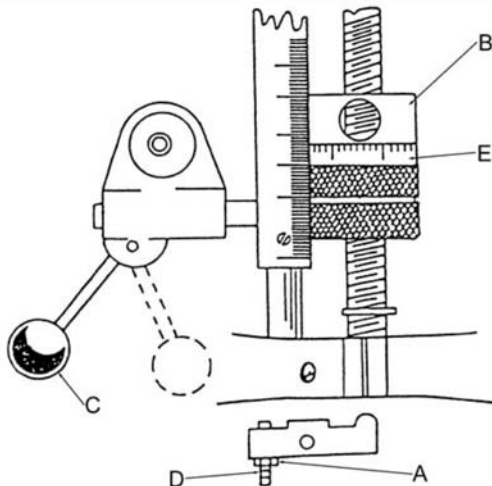

Figure 13
1. Loosen lock nut (A, Fig. 13).
2. Engage trip handle (C, Fig. 13) by pulling away from head assembly.
3. Adjust micro nuts (E, Fig. 13) against quill stop (B, Fig. 13).
4. Slowly turn adjusting screw (D, Fig. 13) until lever (C, Fig. 13) trips.
5. Tighten lock nut (A, Fig. 13)